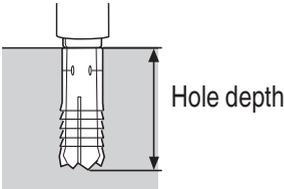

Fig. 9
- (2) Turn ON the switch and drill a base hole with the automatic boring anchor. (**Fig. 9**)